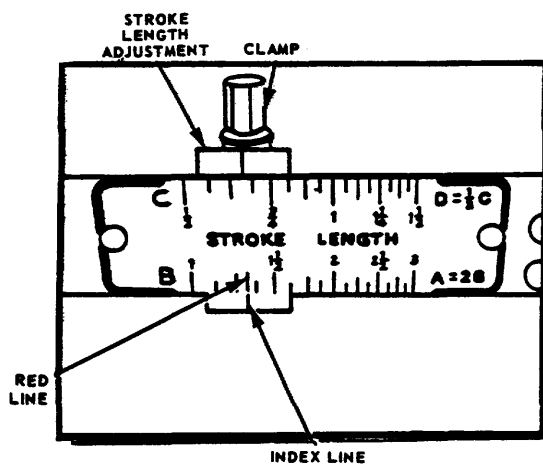

FIGURE 18
- (2) See Figure 18. Loosen Clamp on Stroke Length Adjustment and rotate adjustment knob until Index Line coincides with Red Line (1-11/32" on "B" Scale).